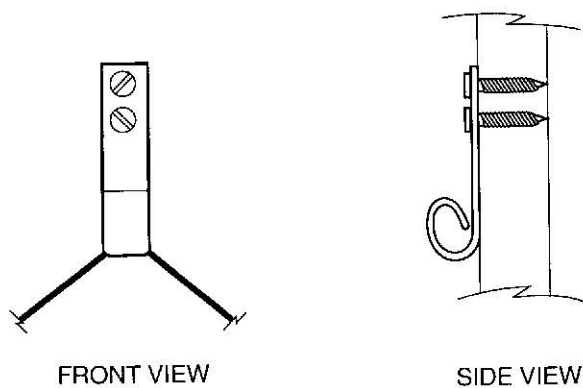

Figure 2
**Warded Suspension Hook.** This type of hook thwarts grab-and-run theft because the wire cannot be easily or quickly lifted off the hook without looking or feeling behind the framed object. (See Figure 2.) A warded suspension hook should be made from a flat piece of stiff aluminum, stainless steel, brass, or other metal that will not rust or corrode. A piece about 3½" to 4½" long, about ½" wide, and about 1/16" to 1/8" thick should be sufficient. Smooth